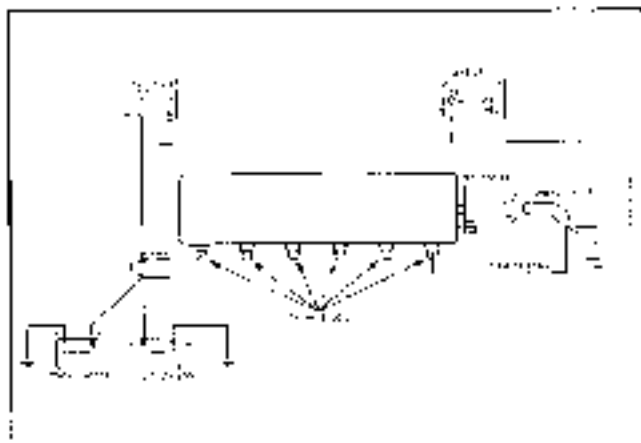

Fig. 6C-1 Schematic of Test-Up Instrumentation
Follow manufacturer's recommendations for the use of testing equipment. Fig. 6C-1 shows a basic schematic for instrumentation which will apply to many types of test equipment and may be used as a rough guide if equipment manufacturer's instructions are not available.
Connections shown in Fig. 6C-1 are made as follows:
1. Attach a timing light and tachometer as shown in Fig. 6C-1.